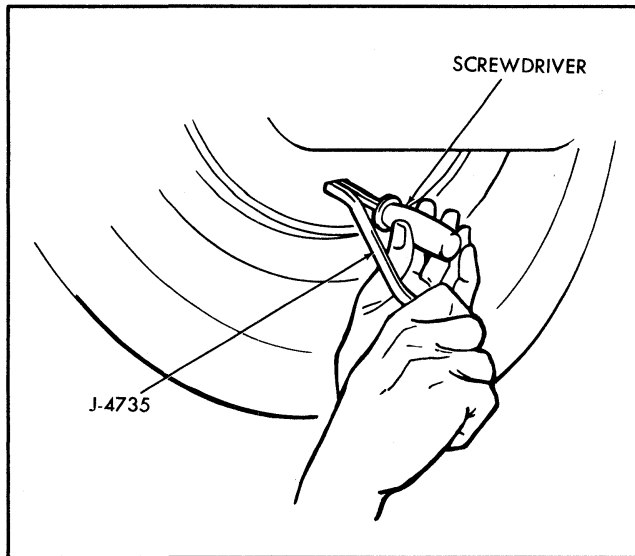

Fig. 5-5 Preparing to Back Off Adjusting Screw
2. Insert a small rod or screwdriver through the adjusting screw slot in the backing plate and hold automatic adjuster lever away from the adjusting screw star wheel (Fig. 5-5 and 5-6).